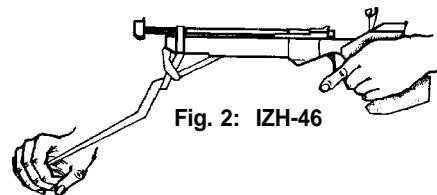

Fig. 2: IZH-46
**B)** Now return the cocking handle to it's rest position by moving the handle to the rear of the pistol. ( See Fig. 2-Page 8) You can tell that you have actuated the cocking handle completely by the fact that the return movement of the handle is under pressure. Keep your fingers away from the trigger and breach at all times when cocking the air pistol. (See Fig B)